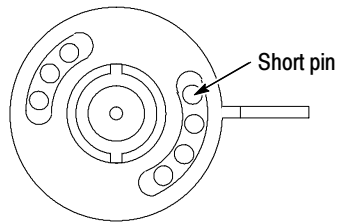

Figure 3: Location of short interface pin
3. The pin installed in the position shown in Figure 3 is 0.020 inch shorter than the other pins. Be sure to install the correct pin in this position; instruments with the TekProbe interface may report errors if a longer pin is in this position. See the *Replaceable Parts List* that begins on page 23 for ordering information